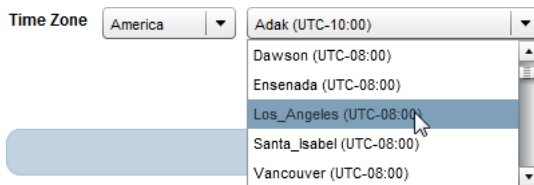

FIG. 190 Location Properties dialog (Settings tab) - Time Zone menus
3. Use the *Time Zone* drop-down menus to select a Time Zone for this location (FIG. 190).